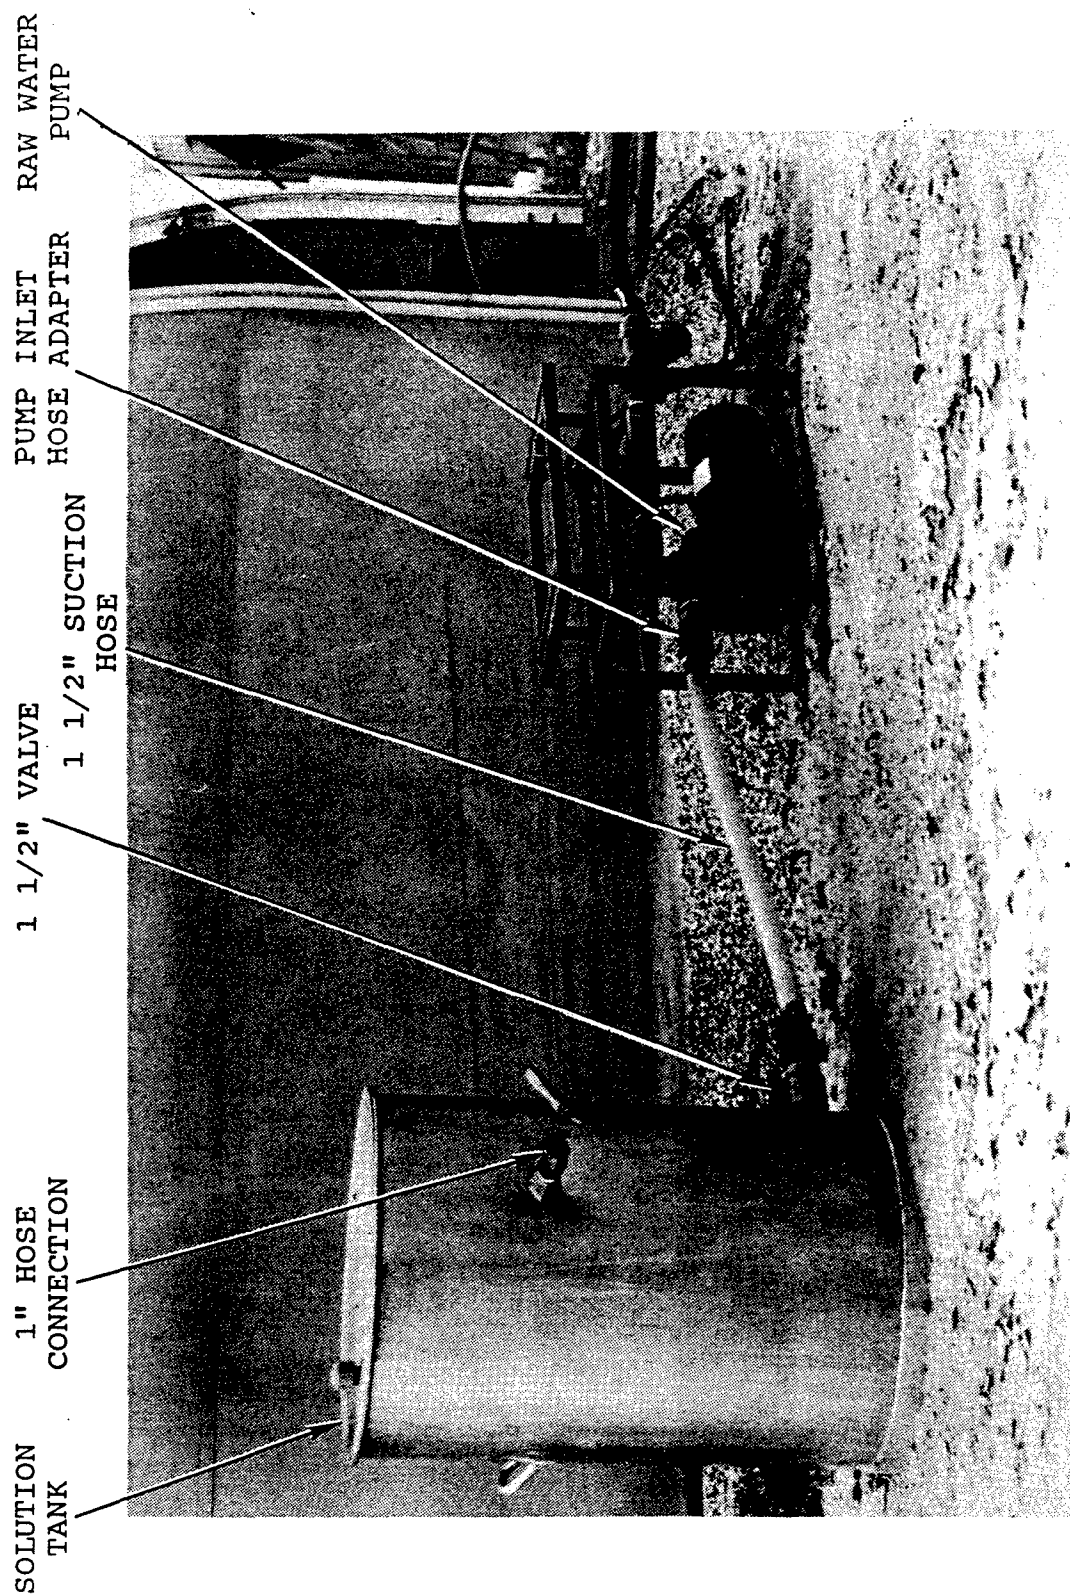

Figure 2-3. Solution Tank and Raw Water Pump Installation.
- a. Connect ROWPU raw water pump to solution tank, utilizing the pump inlet hose adapter and the 1-1/2 inch by 3 foot long suction hose with quick disconnect fittings as shown in figure 2-3.